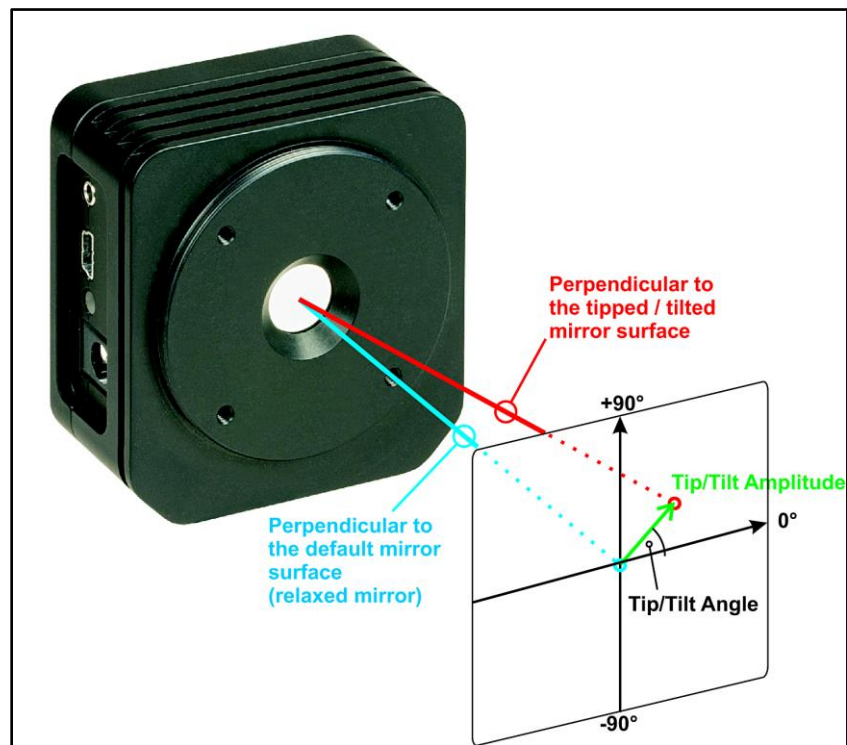

Figure 133 DMP40 Tip and Tilt Angle Explanation
Mirror Tip/Tilt – In addition to controlling the arm voltages individually, the arms may be controlled simultaneously to define a tilt amplitude and the angle of an axis in the plane of the un-tilted mirror that goes through the center of the mirror about which the mirror is tilted. See Figure 133.
- **Amplitude** – Works with the **Tilt** control and sets the relative amplitude of the mirror tilt, 0 – 100%. See Figure 133 below for the physical definition of the Tilt Amplitude.
- **Angle** – Works with **Amplitude** control to affect the voltages to the three control arms simultaneously to cause the mirror to tilt about an axis defined by the Tilt Angle. It can be set to a value from -180 to +180 degree. See Figure 133 below for the physical definition of the Tilt Angle.